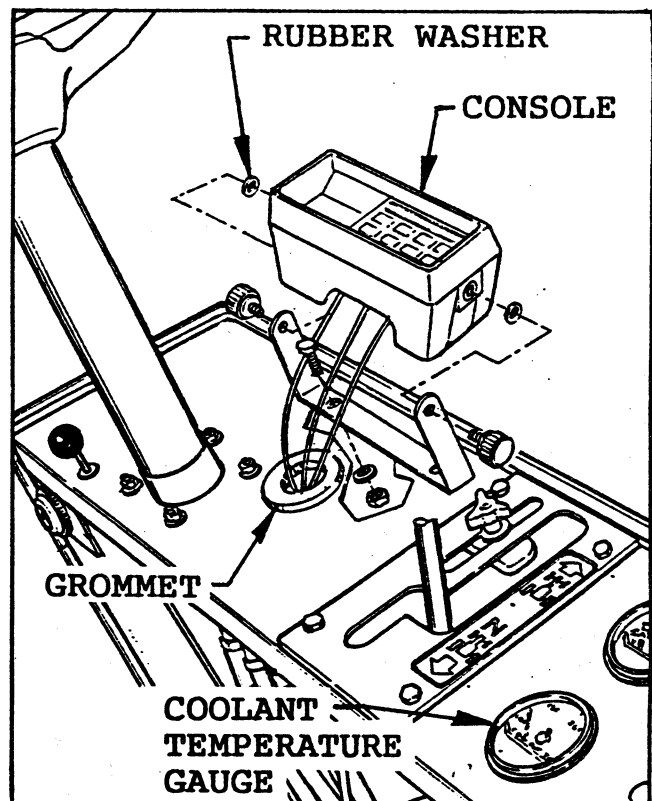

FIG. 1
■ Mount the bracket in the two holes provided in the dash panel, using two 1/4" bolts, lock washers and nuts as shown in FIG. 1.